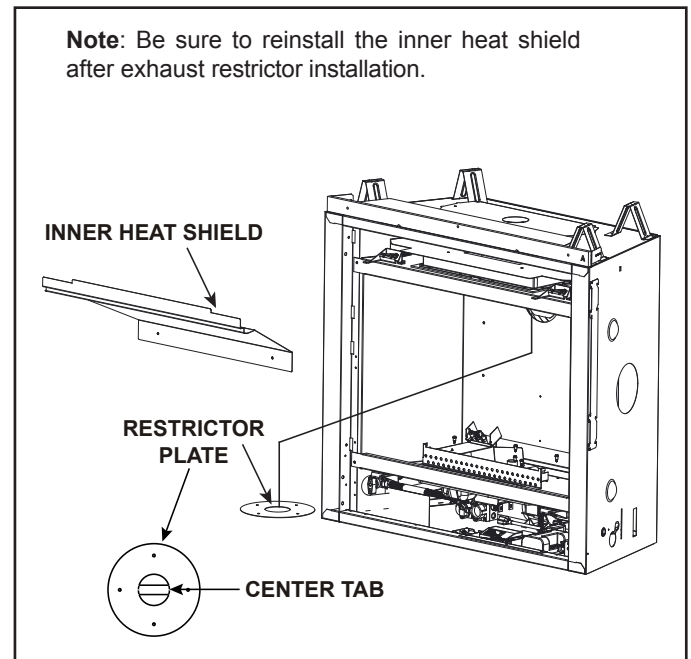

Figure 4.13 Exhaust Restrictor Installation
**Note:** Remove center tab in exhaust restrictor for vent configuration with over 20 ft. (6.0 m) of vertical. See Figure 4.13.
1. Install the exhaust restrictor over the center of the exhaust outlet in the firebox. See Figure 4.13.